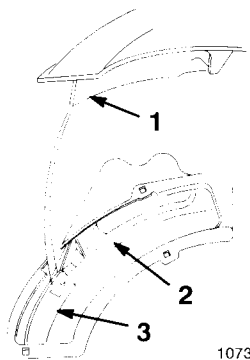

Figure 42
4. Place front corner of the chute baffle into the deck opening. Rotate the chute counterclockwise and push down into the deck opening (Fig. 42).
5. Place the front corner of the mulch plate baffle into the deck opening (Fig. 42).
6. Rotate the mulch plate counterclockwise and push it down into the deck opening (Fig. 42).